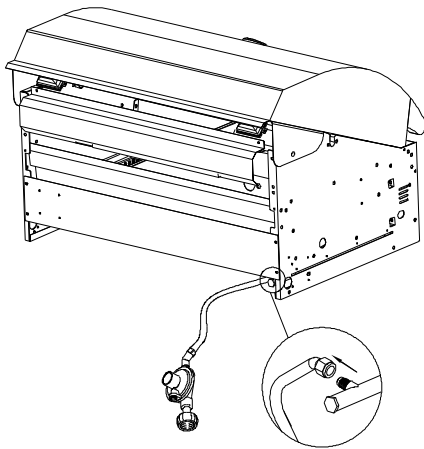

Figure 1
- Remove the LP Regulator from the Manifold as shown in Figure 1.